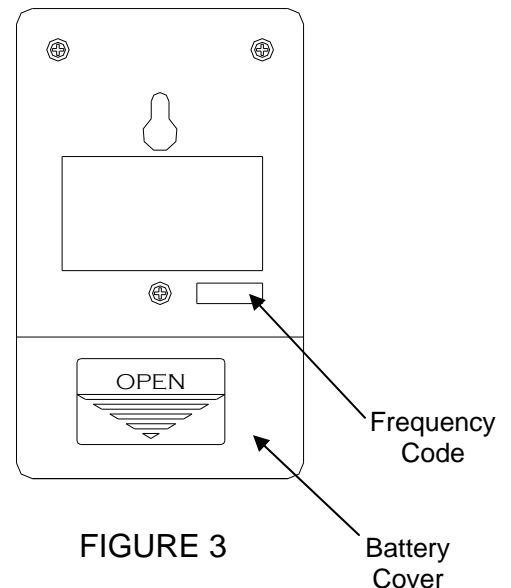

FIGURE 3
The remote control has a range of approximately 50ft. (15.25m) it does not have to be pointed at the stove and can pass through most obstacles (including walls). It is supplied with one of 243 independent frequencies to prevent interference with other units. The frequency designation is indicated on the back of the transmitter (FIGURE 3)
3. Install a 9 volt battery into the transmitter. (FIGURE 3)